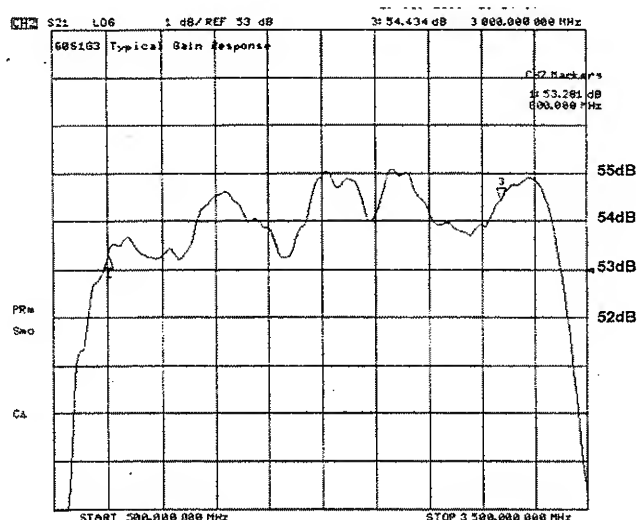

Figure 4.3.7.1
- 4.3.7.1 The Model 60S1G3's typical Gain Response is shown in Figure 4.3.7.1. The actual gain may vary considerably from that shown in Figure 4.3.7.1, but it should be ≥ 48 dB.